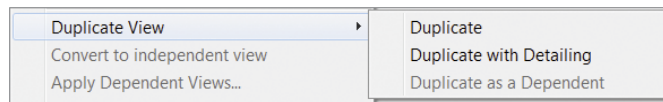

FIGURE 9.6 Duplicate a view from the Project Browser.
1. Find the East elevation in the Project Browser. Right-click the name East and choose Duplicate View, and then in the flyout menu choose Duplicate (Figure 9.6). This will make a copy of the view but without copying detail annotation elements.